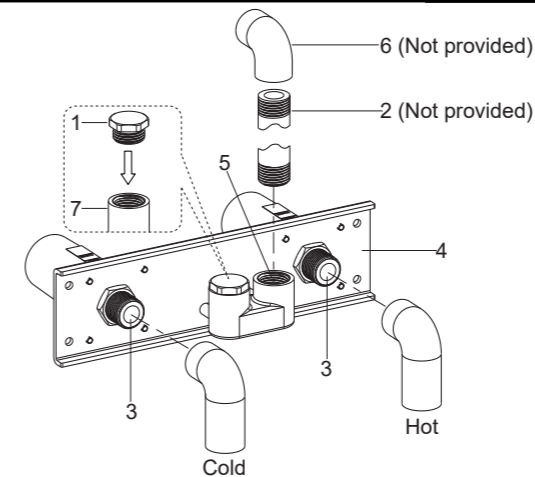

Fig. 1
As Fig. 1 shown, apply enough tape or suitable sealant on threads of the plug(1), showerhead outlet tube(2, not provided) and two connections(3). Install the G1/2" hot and cold supply pipes into two connections, and make sure the hot supply should be installed to the side with red dot of the inlet assembly(4). Connect one end of the showerhead outlet tube with the connector(5), and the other end with G1/2" female ell(6, not provided). Tighten the plug(1) onto the connector(5).